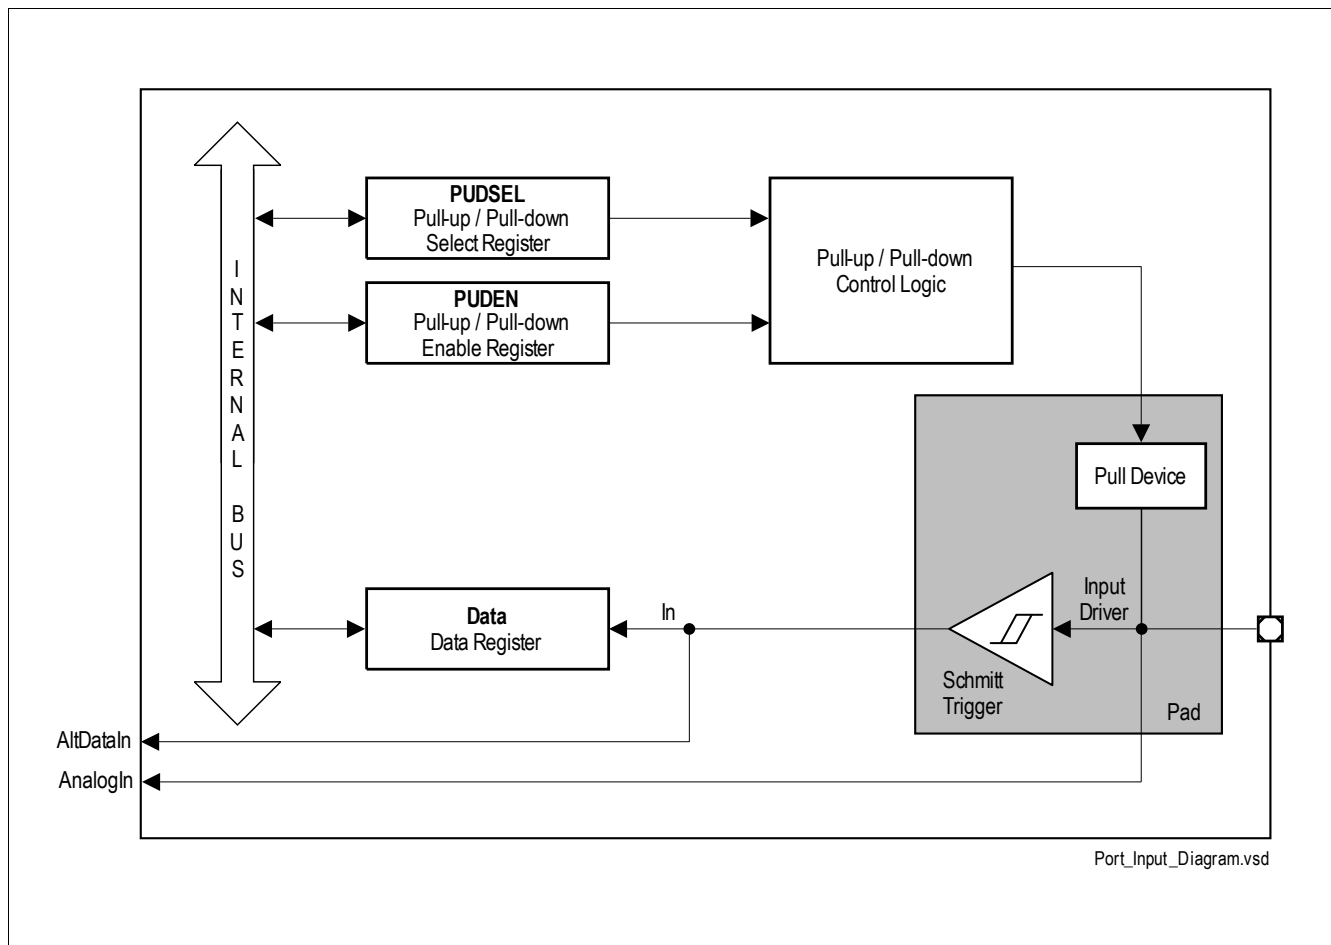

**Figure 20 General Structure of Bidirectional Port**
**Figure 20** shows the block diagram of an TLE9853QX bidirectional port pin. Each port pin is equipped with a number of control and data bits, thus enabling very flexible usage of the pin.